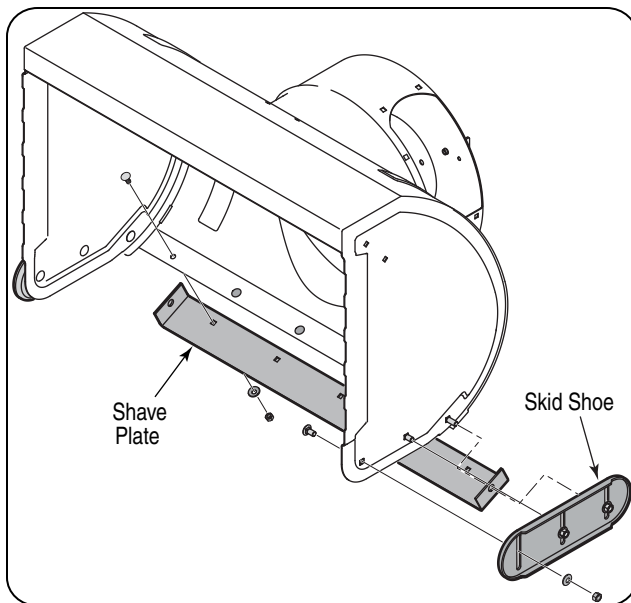

Figure 6-1
1. Remove the six carriage bolts, hex nuts, and bell washers that secure the two skid shoes to the sides of the auger housing. Refer to Figure 6-1.
2. Position the new skid shoes and secure with the carriage bolts, bell washers, and hex nuts. Make certain the skid shoes are adjusted to be level. Refer to Fig. 6-1.